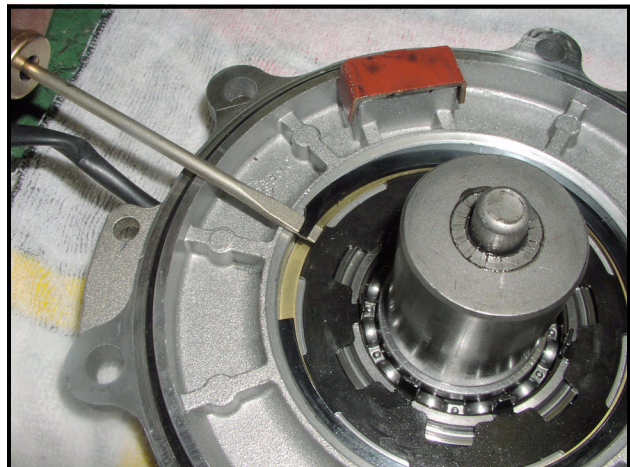

Figure 9-9 Cover Retaining Ring
3. Remove the retaining ring from around the inside edge of the cover flange (**Figure 9-9, Page 9-4**).
4. Install the armature retaining ring (Figure 9-9, Page 9-4).